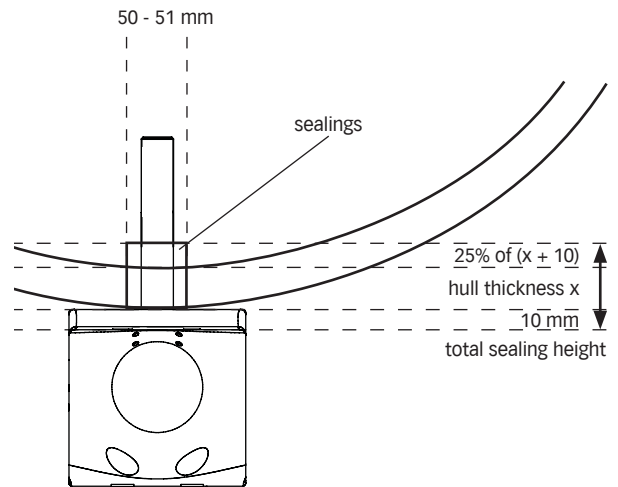
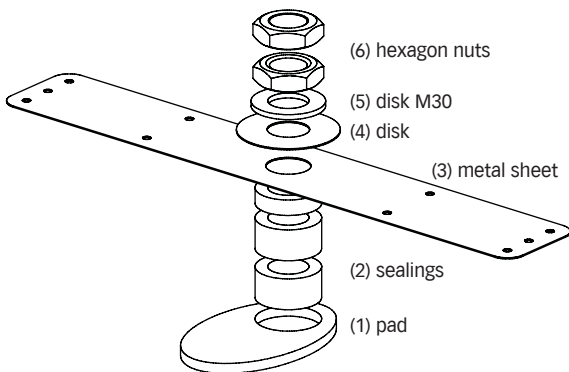
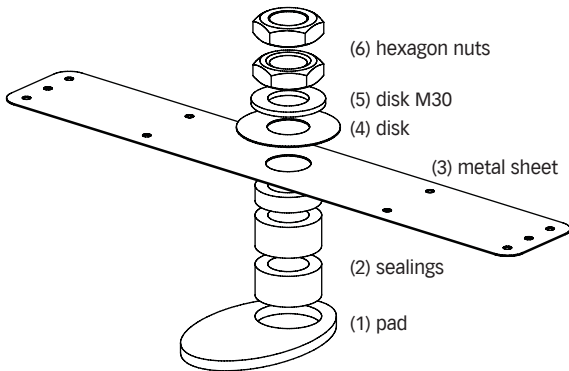

Fig. 10: drilling and total sealing height
Fig. 12: main connection GRP
Fig. 17: main connection GRP
Before the execution of the hollow shaft through the borehole, the pad (1) must be glued on the bow thruster. Afterwards, all other parts can be put on the hollow shaft from inside. The sequence corresponds to the one in fig. 12, whereby, depending on the hull thickness, several seals (2) must be used. It is to be considered that those seals are compressed by about 25% when tightening the bolts (fig. 10).
Bolt down the thruster via the main connection, thereby paying attention to the right number of seals (fig. 10). The sequence corresponds to the one in fig. 17, whereby, depending on the hull thickness, several seals (2) must be used. It is to be considered that those seals are compressed by about 25% when tightening the bolts (fig. 10).